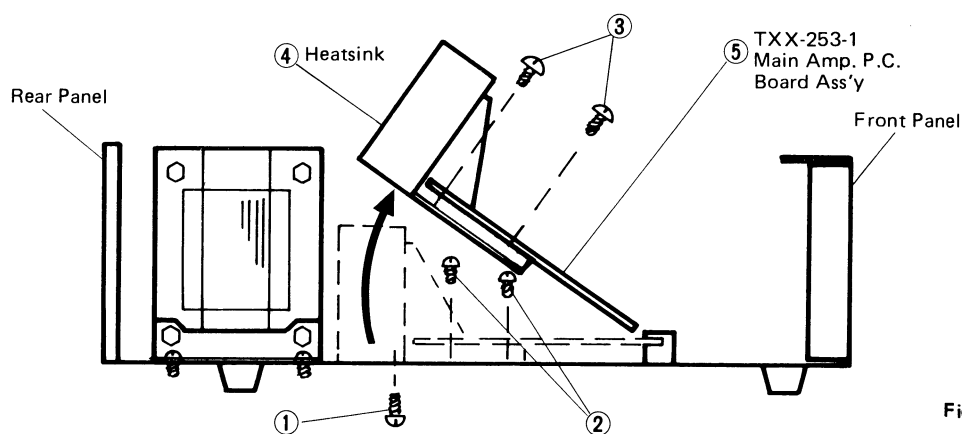

Fig. 2
- Step 1: Remove the bottom plate from chassis and 2 screws ① from heatsink ④.
- Step 2: Remove 4 screws ②.
- Step 3: Raise TXX-253-1 ⑤ from chassis as arrowed on Fig. 2 and then resolder the power transistor's leads.
- Step 4: Remove 4 screws ③ and heatsink from TXX-253-1 and then replace the power transistors.